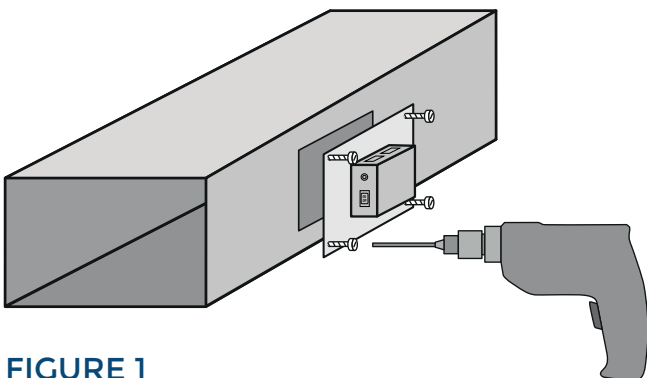

FIGURE 1
2. To mount the unit in a duct (See Figure 1):
- c. Screw the DM-6000 onto the duct using sheet metal screws (See Figure 1).